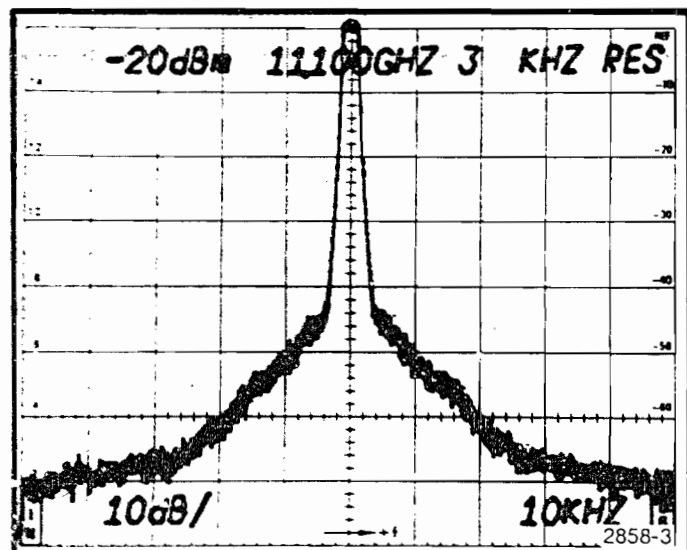

Fig. 2-1. Typical spectrum analyzer display of sideband noise.
3. **Measuring Frequency Drift, Residual FM, and Sideband (Phase) Noise.** Since the 500 MHz source is very stable, the comb lines provide a good reference for spectrum analyzer drift and incidental FM. Figure 2-1 shows a typical spectrum analyzer display with sideband noise.